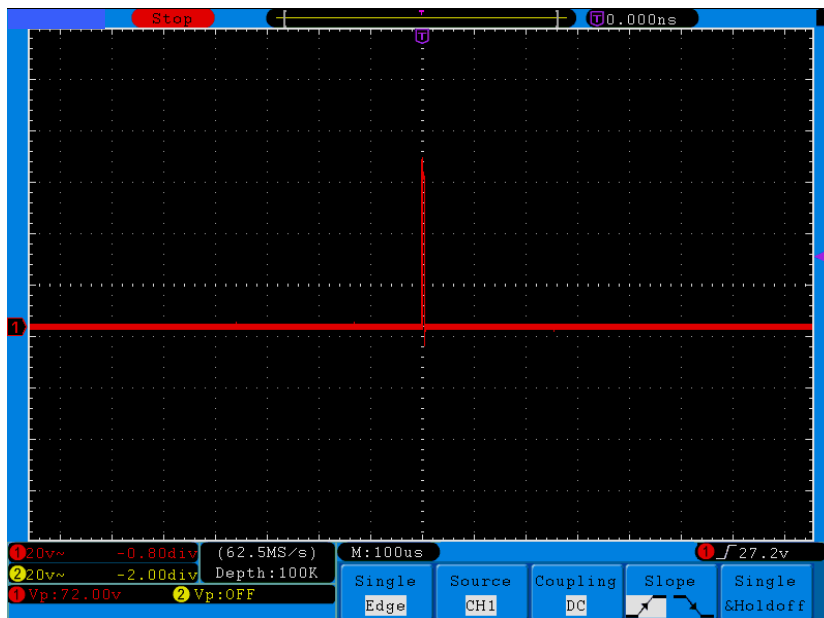

Figure 7-3 Capturing a Single Signal
- (5) Press the **F2** button to choose **Peak detect**.
- (6) Press the **Trigger Menu** button to display the Trigger menu.
- (7) Press the **H1** button to display the Trigger Type menu.
- (8) Press the **F1** to choose **Single** as the type.
- (9) Turn the **M** rotary control to choose **Edge** as the mode.
- (10) Press the **H2** button to display the **Source** menu.
- (11) Press the **F1** button to choose **CH1** as the source.
- (12) Press the **H3** button to display the Coupling menu; press the **F2** button to choose **DC** as the Coupling.
- (13) Press the **H4** button to choose  (rising) as the Slope.
- (14) Rotate the **TRIG LEVEL** rotary control and adjust the trigger level to the roughly 50% of the signal to be measured.
- (15) Check the Trigger State Indicator on the top of the screen, if it is not Ready, push down the **Run/Stop** button and start acquiring, wait for trigger to happen. If a signal reaches to the set trigger level, one sampling will be made and then displayed in the screen. By using this approach, a random pulse can be captured easily. For instance, if we want to find a burst burr of high amplitude, set the trigger level to a slightly higher value of the average signal level, press the **Run/Stop** button and wait a trigger. Once there is a burr occurring, the instrument will trigger automatically and record the waveform during the period around the trigger time. By turning the **HORIZONTAL POSITION** rotary control in the horizontal control area in the panel, you can change the horizontal triggering position to obtain the negative delay, making an easy observation of the waveform before the burr occurs (see *Figure 7-3*).